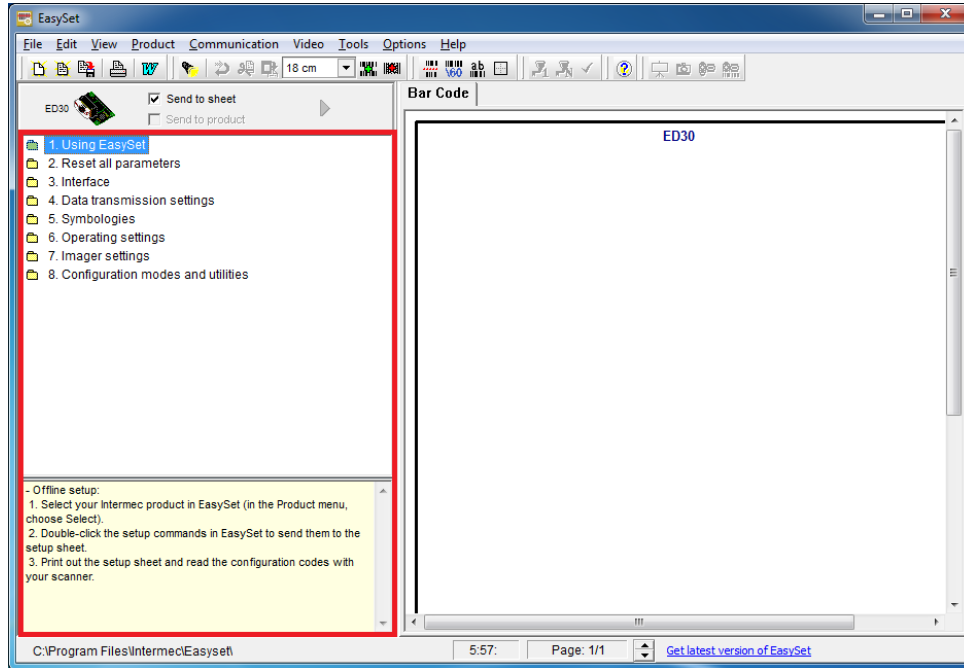

Figure 3-19: Barcode Parameters
Step 1: The left side of the EasySet window (**Figure 3-19**) displays all parameters that can be configured.